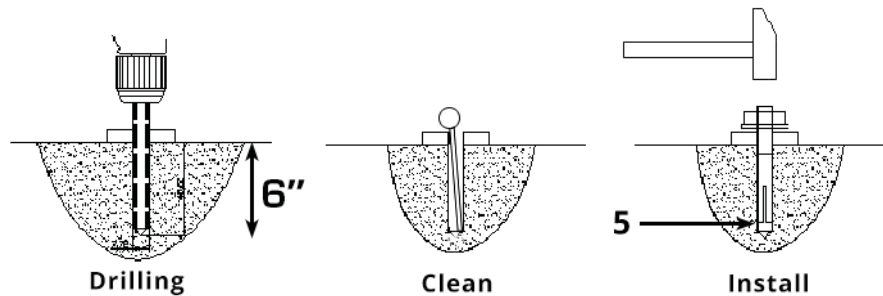

Fig. 14
2. Use a the rotary hammer drill with a  $\frac{3}{4}$  inch masonry bit and drill all the anchor holes and install the anchor bolts (See Fig. 14).